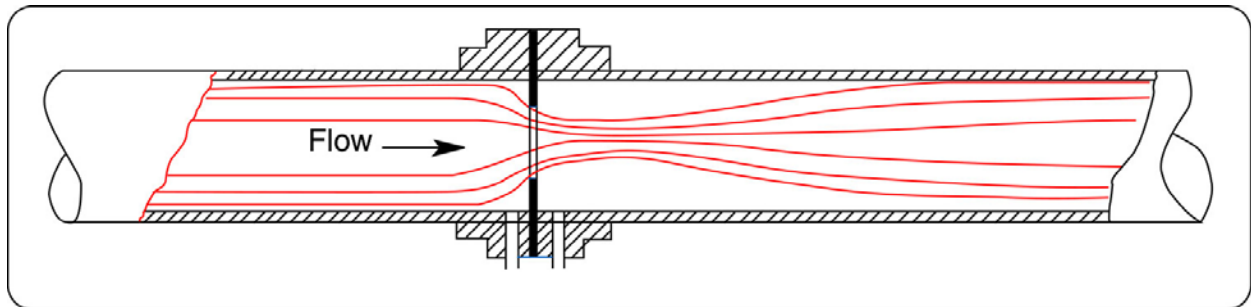

Figure 2 Orifice plate (source: www.orificeplates.com)
5. For new systems that do not have a flow meter, install flanges that are designed for an orifice plate in a straight part of the pipe (see Figure 2) and do not install the orifice plate. In the future, whoever trouble-shoots the pump will have a way to measure flow without the owner having to incur major downtime or expense. Note: orifice plates are not suitable for slurries.